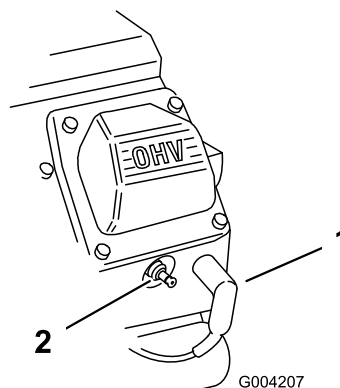

Figure 31
- Pull the wires off of the spark plugs (Figure 31).
3. Push the wires onto the spark plugs (Figure 31).